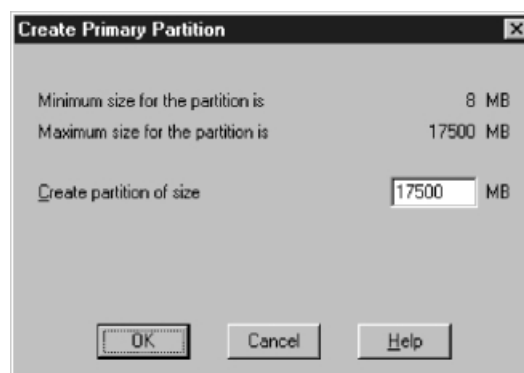

Fig. 13 Create Primary Partition dialog box
2. When “Create” is clicked on the [Partition] menu, the “Create Primary Partition” dialog box shown in Fig. 13 appears. Click [OK].